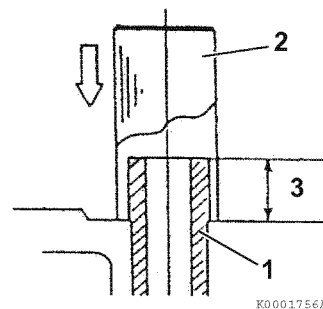

Figure 6-26
3. Finish installing the valve guides (1, **Figure 6-26**) into the cylinder head to the proper height (3, **Figure 6-26**) using the valve guide installation tool (2, **Figure 6-26**). See *Intake/Exhaust Valve and Guide* on page 6-4.